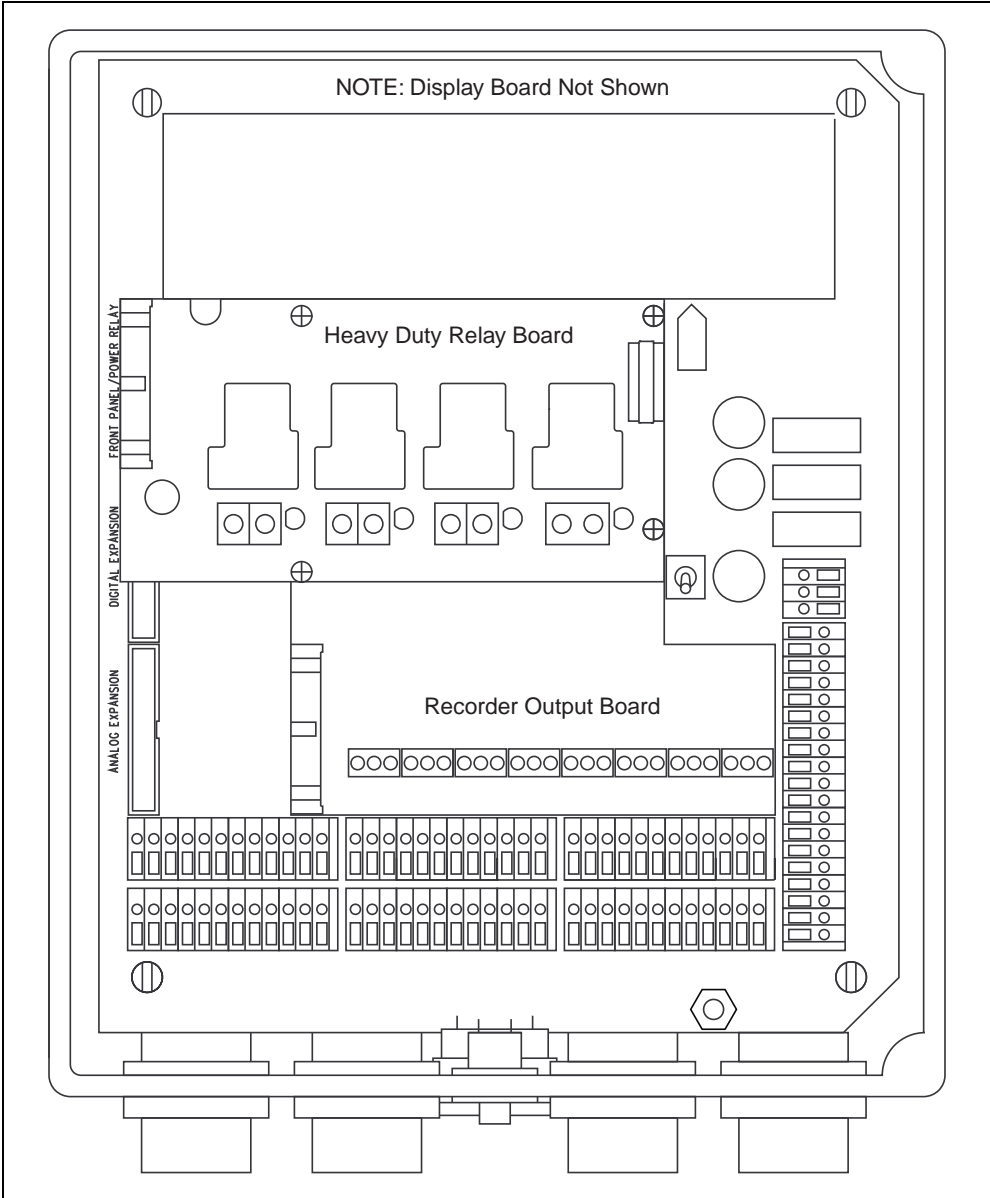

Figure 14: Beacon 800 with Recorder Output and Heavy Duty Relay Board
- Connect the wires to the recorder output board as illustrated in Figure 14. See the monitoring device's instruction manual for connections at the monitoring device.